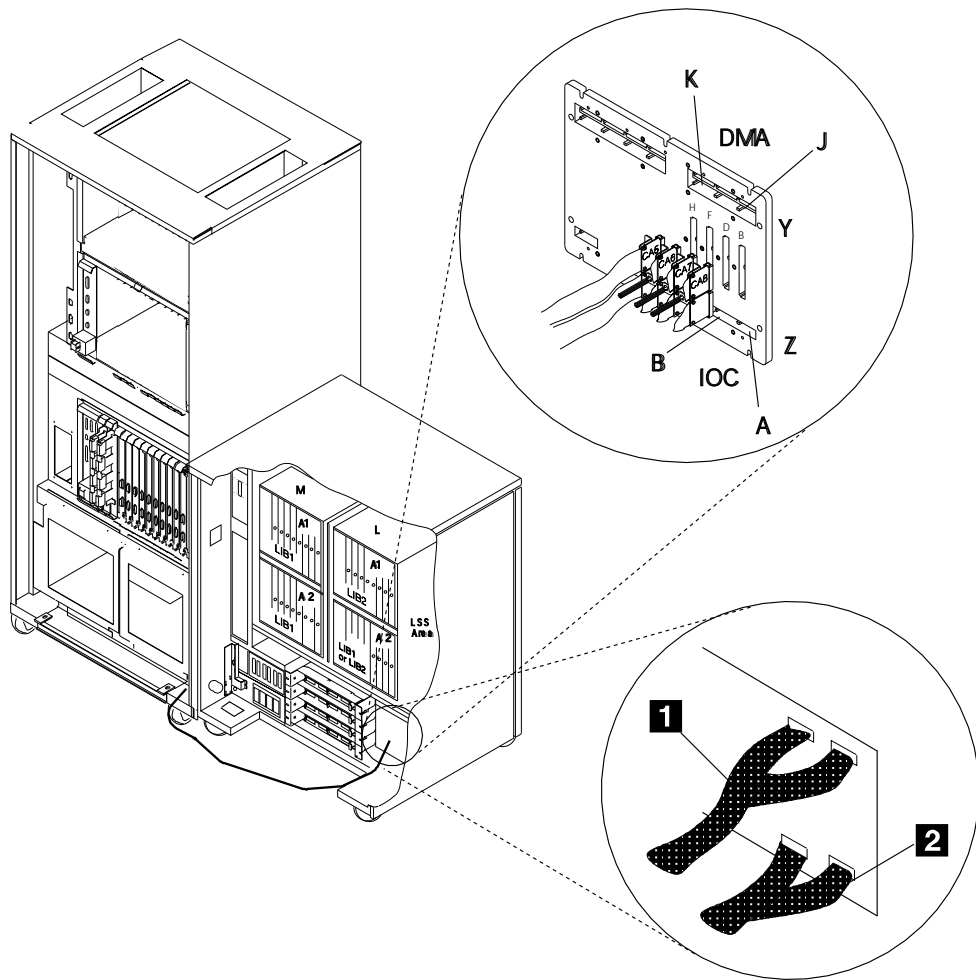

Figure 6-7. Routing of the IOC and DMA Cables
Step 3. ____ Locate the connector positions 01G-A1 ZB, ZA, YK, and YJ (see Figure 6-7 on page 6-8).
- Step 6. ____ Unroll and route the IOC and DMA cables along the bottom of the 3745 and 3746-900 frames (see Figure 6-7).